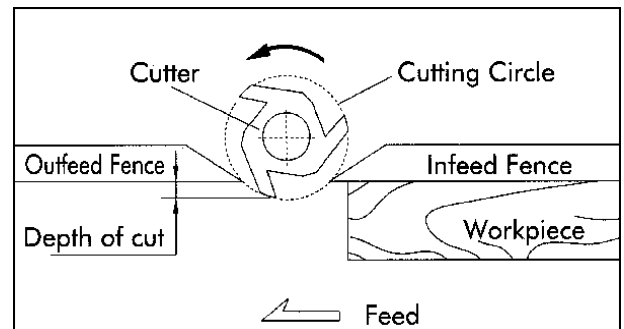

FIGURE 32
1. For normal work, where a portion of the original edge of the stock is not touched by the cutter, both the infeed and outfeed fences are in a straight line, as shown in Figure 32.